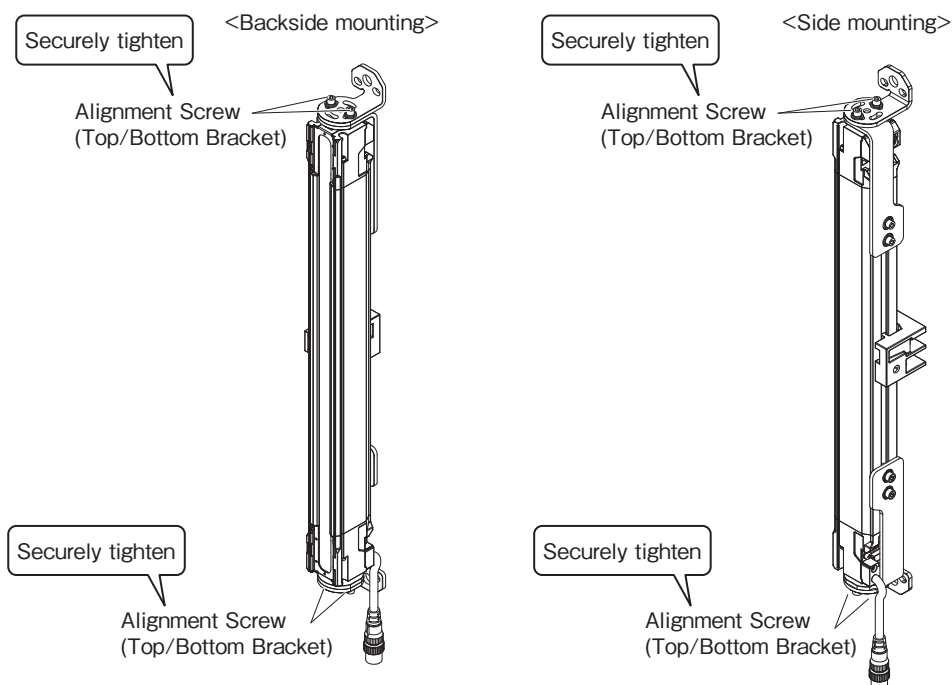

Fig. 8
- 7.** Securely tighten the Alignment Screw of the Top/Bottom Bracket to fix the bracket to the sensor housing. The recommended torque to tighten the Alignment Screw is 3.0 N•m. (Fig. 8)